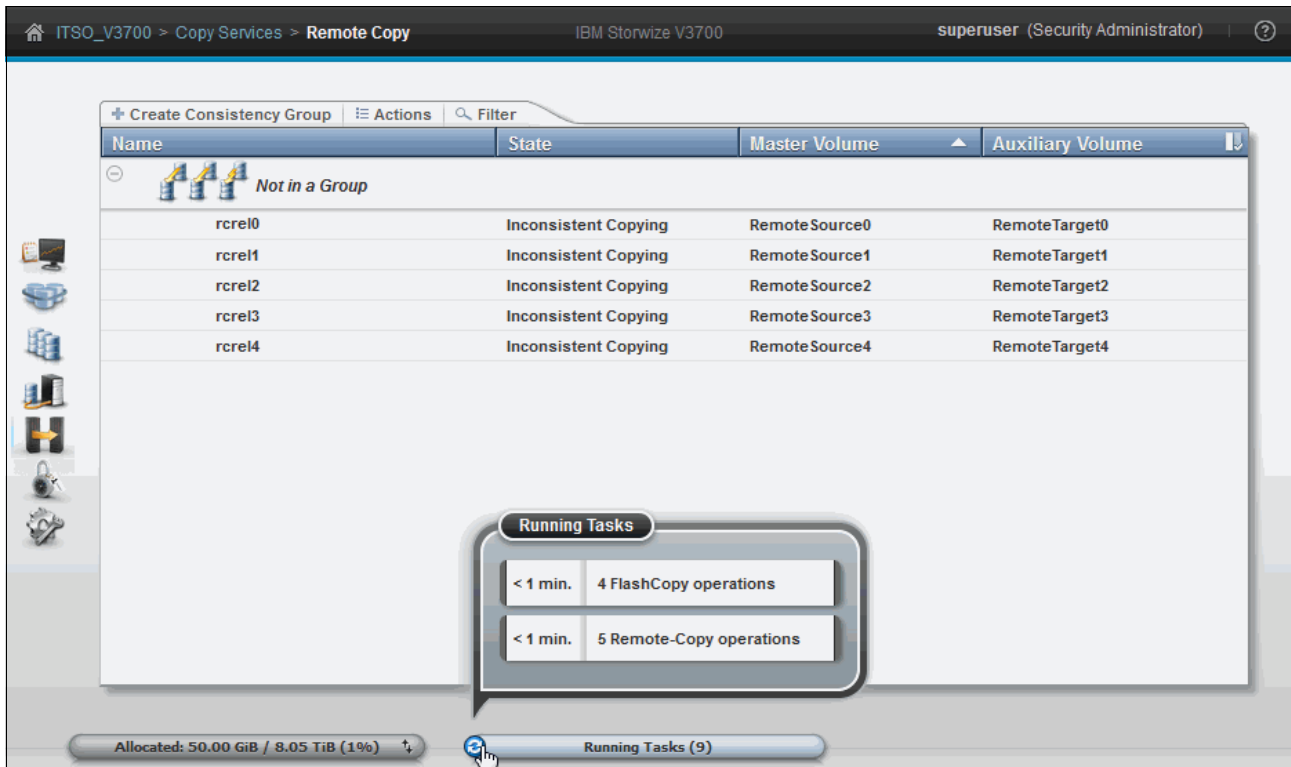

Figure 10-107 Remote copy initialization progress through Running Tasks
10. Optionally, you can monitor the ongoing initial synchronization in the Running Tasks status indicator, as shown in Figure 10-107.